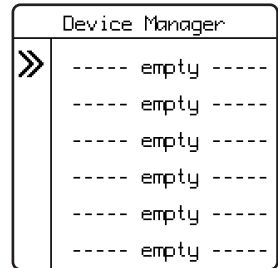

Fig. 5
5. Select an empty line (----- empty -----) in the list using the arrow buttons (Fig. 5).